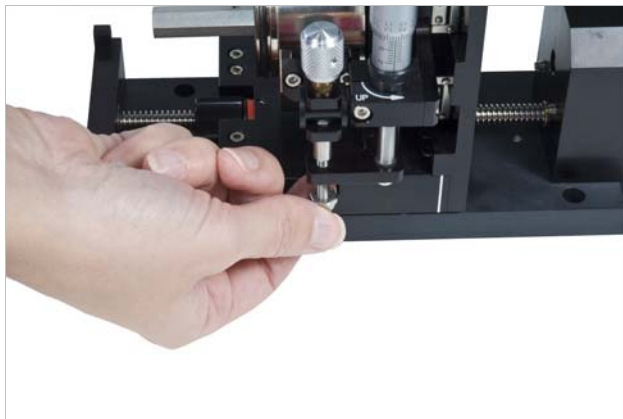

FIGURE 5-24 Left: Thread the nut onto the bottom of the shaft; Right: Tighten the four long horizontal M4 screws
6. Using small pliers or an adjustable wrench, thread the nut onto the bottom of the shaft until the end of the shaft is flush with the nut (FIGURE 5-24).